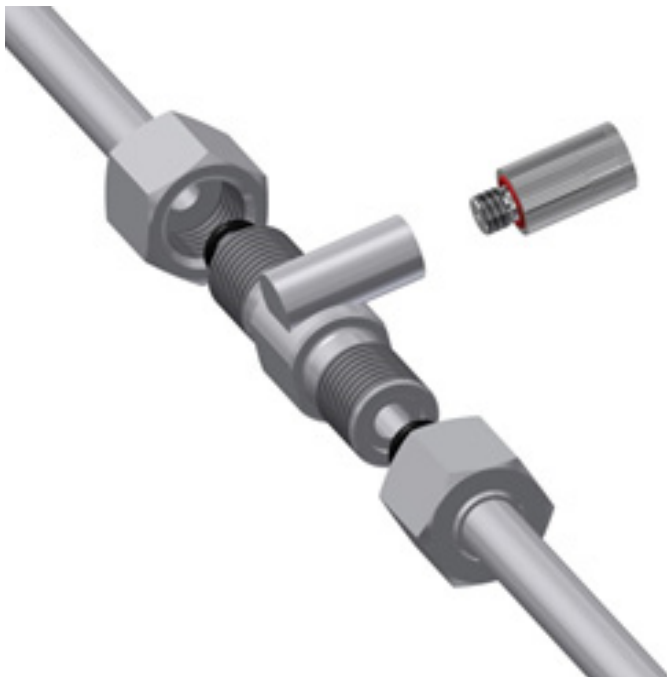

Figure 23: Inserting the nozzle
- As shown In Figure 23, insert the nozzle into the Flex assembly